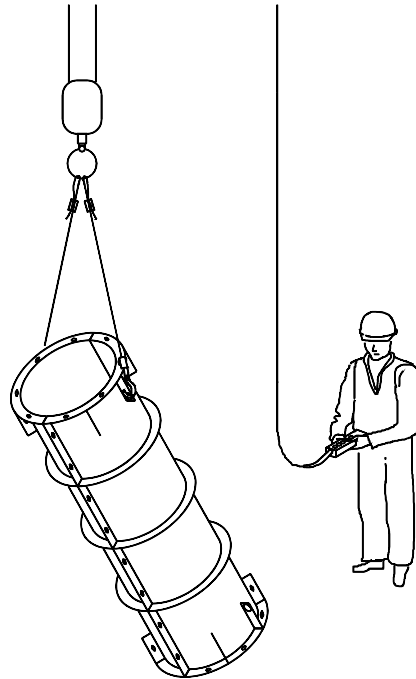

Figure 7
- ❖ Once all the panels' tie holes have been bolted together, proceed to lift the molds. Use lifting hooks for this purpose. (See figure 7)
- ◆ Then, proceed to lift the molds. (See figure 7)